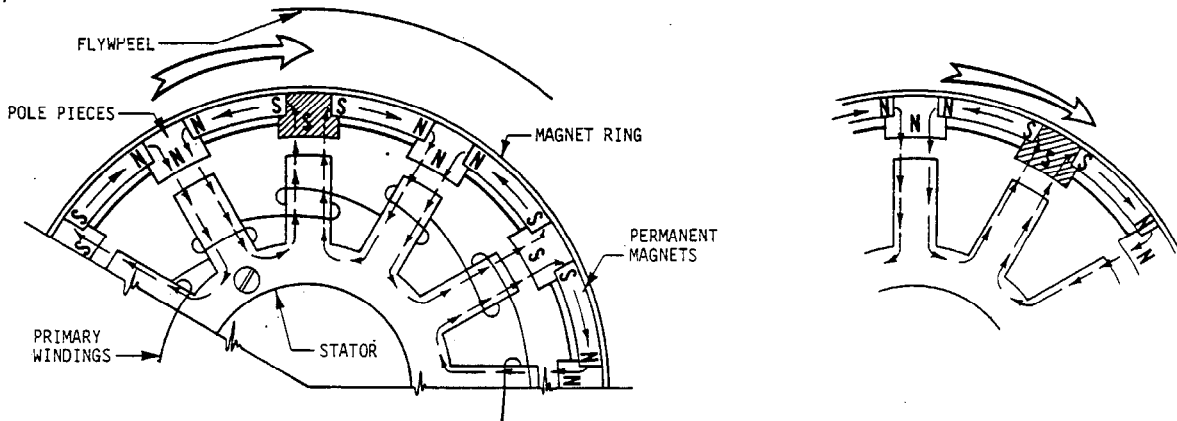

FIGURE 17 - ALTERNATING CURRENT PRODUCED BY FLYWHEEL ALTERNATOR
The magnet ring has a specific number of permanent magnets imbedded in a cast ring. These high strength ceramic magnets are arranged between pole pieces, so that there is an equal number of north and south magnetic poles. This is illustrated in Figure 17. The magnet ring is permanently fitted to the inside rim of the engine flywheel so that it can be rotated around the alternator stator which is assembled in stationary position on the closure plate of the engine.
o'clock position in Figure 17. In this illustration, a south magnetic pole piece is just above the reference coil. When in this position, the magnetic lines of force move out of the adjacent north pole pieces, downward through the adjacent core posts, then upward through our reference coil to return to the magnets through the south magnetic pole piece. The direction of flux is important as it also determines the direction that the current flows through the windings. For example, when a north magnetic pole piece rotates above our reference coil the flux direction is opposite of what it was when the south pole was in the same position. Since the flux direction is reversed, the direction of current through the primary windings is also reversed. This current continually changes direction, since the pole pieces are alternately north and south. The alternating current (AC) thus produced must be changed into direct current (DC) to be used in the battery and ignition system.